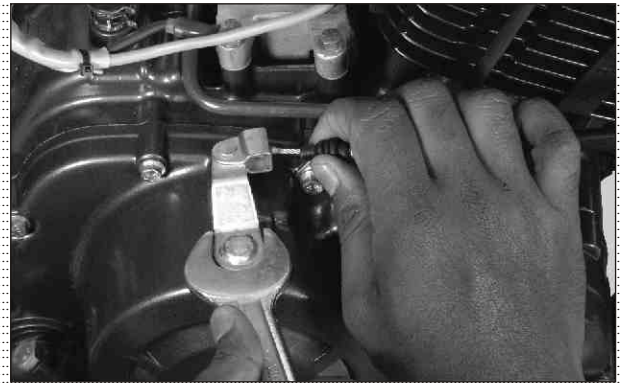

Fig. 3.3
- Using 20 mm open end spanner rotate the arm clutch release towards front, in such a way that cable assembly clutch can be dislocated from the arm clutch release. (Fig. 3.3)